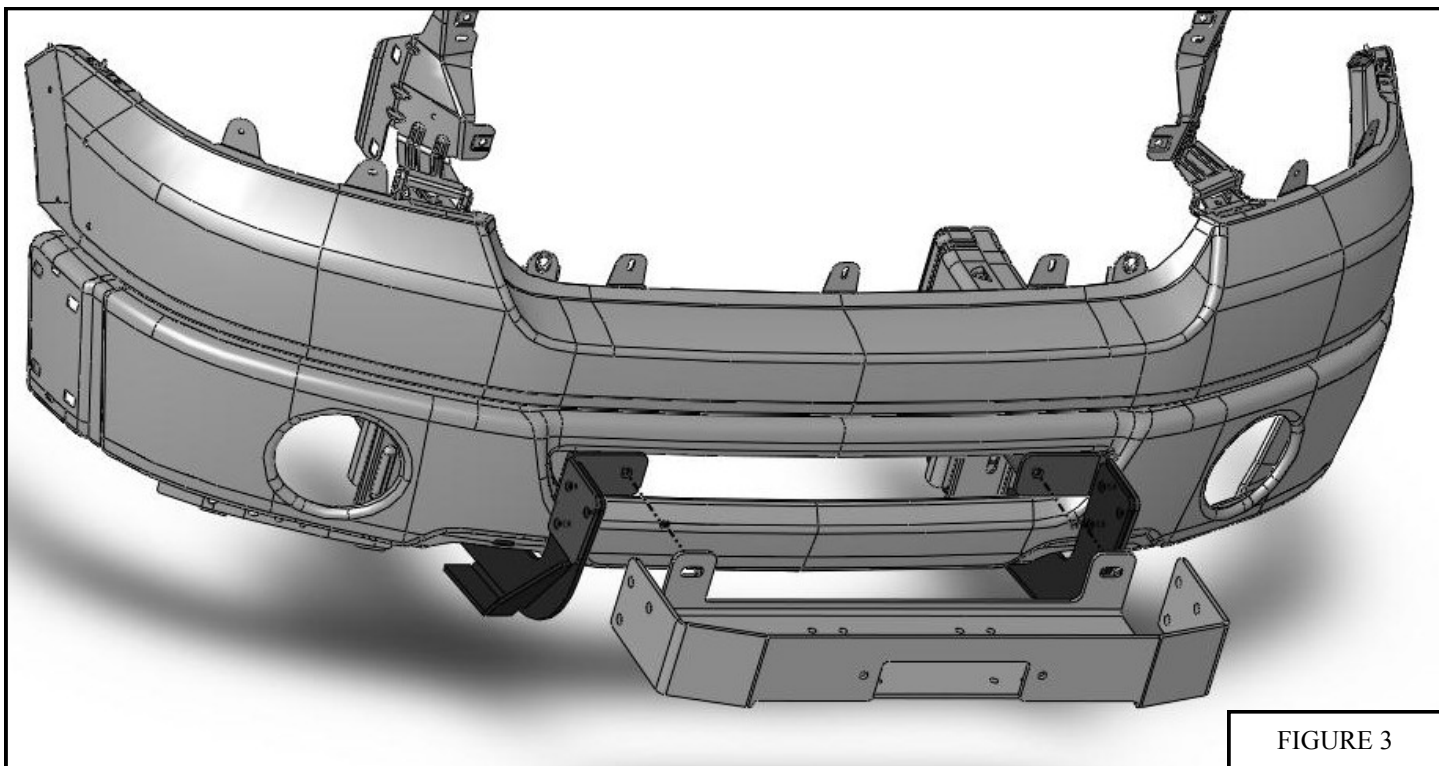

FIGURE 3
9. Secure the winch tray assembly and each upper mount brackets to the bumper mounting brackets by inserting one M12 x 200MM (ITEM 6) hex bolt and through the upper support mounting bracket (bottom) then attach with one M12 flat washer (ITEM 11) through the each bracket tube and bumper mount slot. Thread an M12 hex nut with an M12 flat washer (ITEM 11) on each bolt behind the bumper mount. (FIGURE 3, 10, 11, 13)